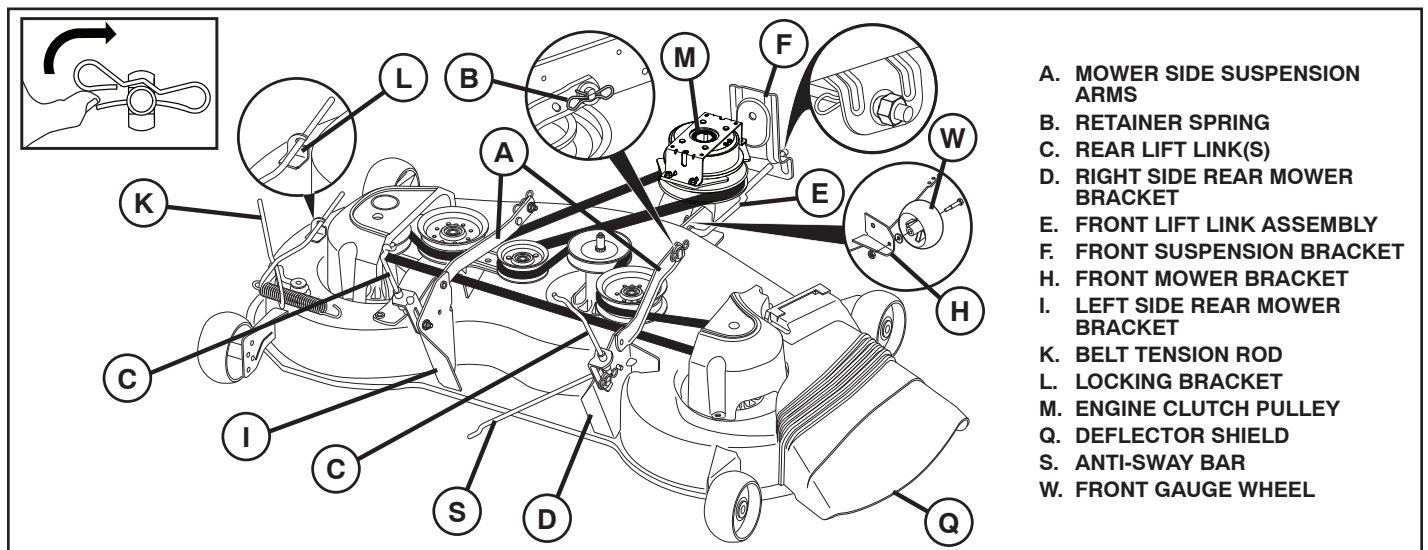

Fig. 22
TO REMOVE MOWER (See Fig. 22)
TO INSTALL MOWER (See Figs. 22 - 34)
9 INSTALL BELT ON ENGINE CLUTCH PULLEY (M) (See Fig. 22 & 34)
- Disengage belt tension rod (K) from locking bracket (L).
- Install belt onto engine clutch pulley (M).